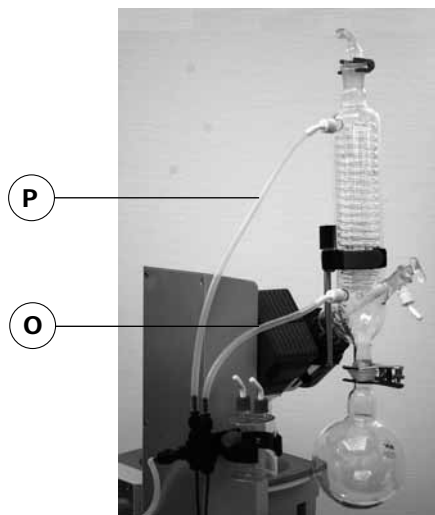

Fig. 17
☞ Connect the water hoses to the glass condenser (short hose (O) = lower outlet, long hose (P) = upper inlet) and fix hoses in place (fig. 17).